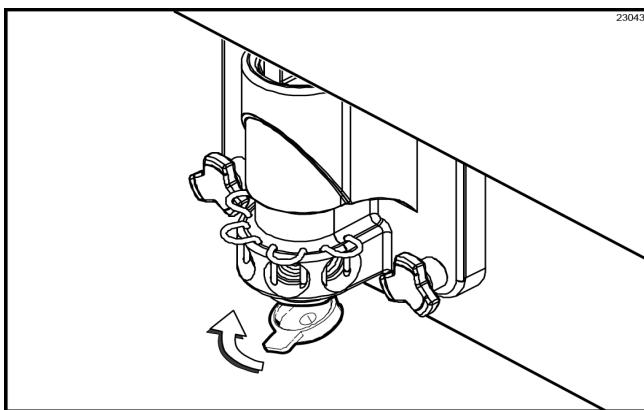

Figure-27
8. Install the restrictor cap on the freezer door spout. (See Figure-27.)